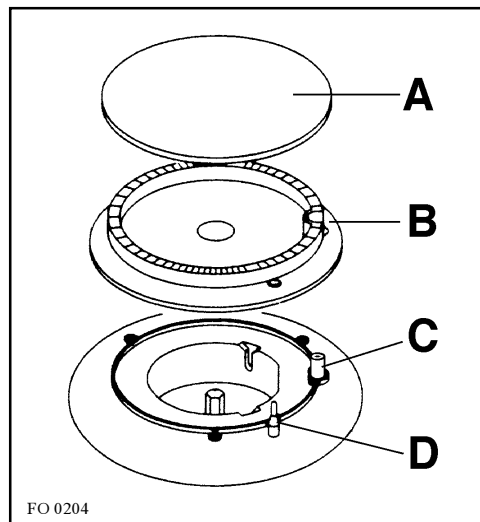

Fig. 1
Upon ignition, keep the knob pushed down for about 5 seconds. This will allow the "thermocouple" (Fig. 1 lett. D) to be heated and the safety device to be switched off, otherwise the gas supply would be interrupted.
If you cannot light the flame even after several attempts, check the "cap" (Fig. 1 lett. A) and the "crown" (Fig. 1 lett. B) are in the correct position.
The automatic ignition of the gas burners is obtained through a ceramic "candle" and a metal electrode (fig. 1 lett. C). Keep these components well clean, to avoid difficult lighting, and check that the burner crown holes (lett. B) are not obstructed.
- With a socket spanner 7 unscrew and remove the injectors (Fig. 1), and replace them with the ones required for the type of gas in use (see **table 2**):